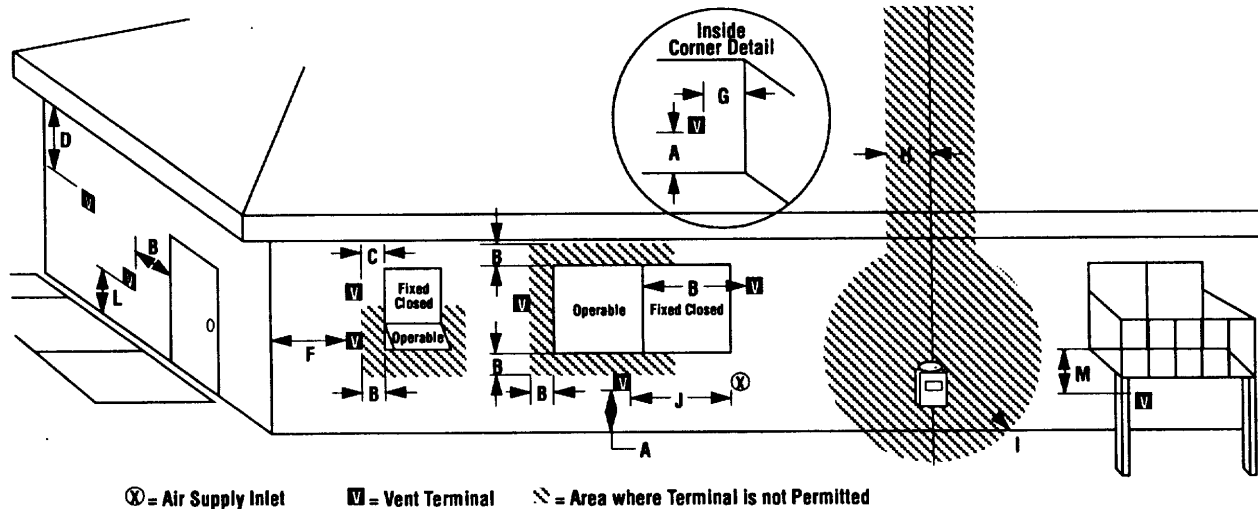

Figure 10. Vent Terminal Clearances - National Fuel Gas Code.
- **MAINTAIN THE PROPER CLEARANCES TO THE TERMINATION CAP. SEE FIG. 10.**